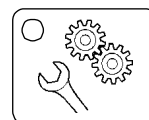
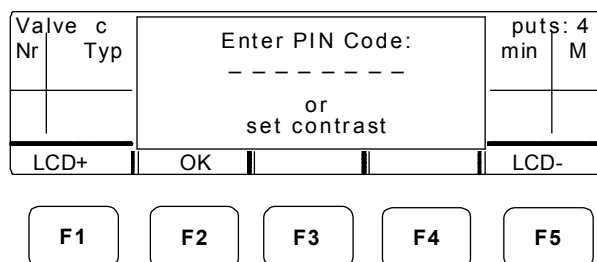

Figure 8-1. Setup-Menu Icon Button
Figure 8-2. Initial Message in Setup Menu
1. Press the setup-menu icon button (Figure 8-1). The “Enter PIN Code:” message displays (Figure 8-2).